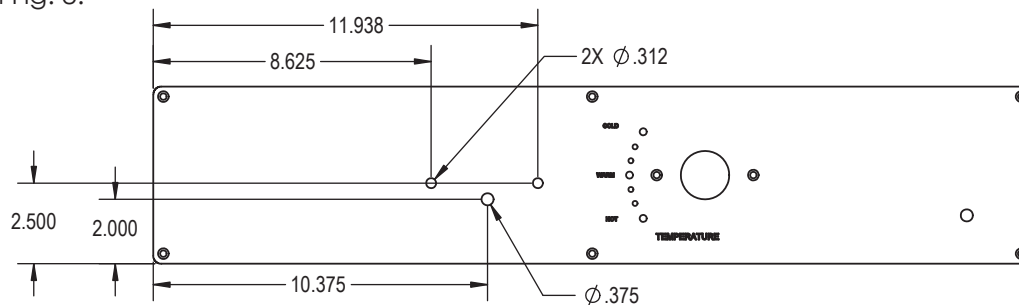

Fig. 8: Drill hole dimensions
6. Prepare both headers to receive the IR sensors and their housings. Drill 3 holes in each header using the dimensions in Fig. 8.